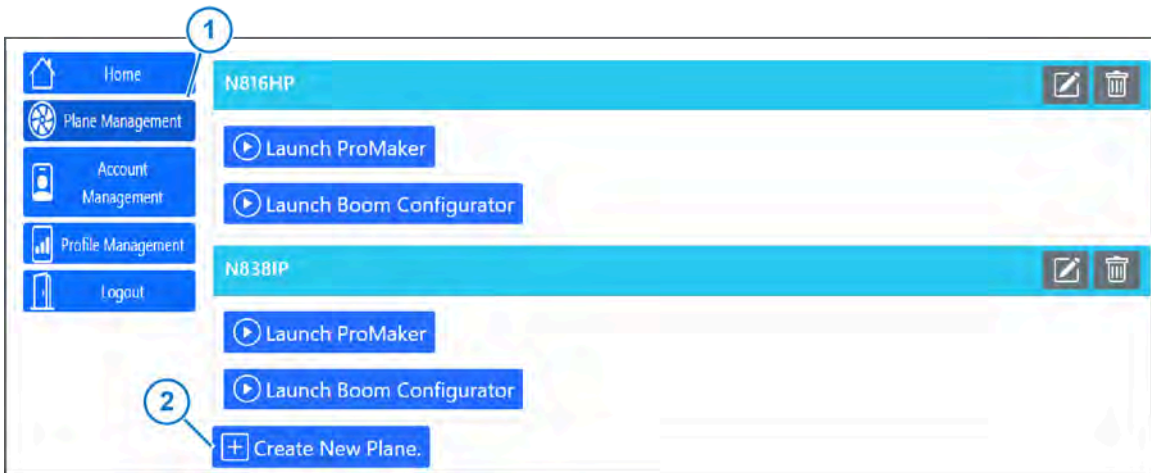

Figure 14: Plane Management
1. Select **Plane Management** (Figure 14, Item 1) from the sidebar.
2. Select **Create New Plane** (Figure 14, Item 2).